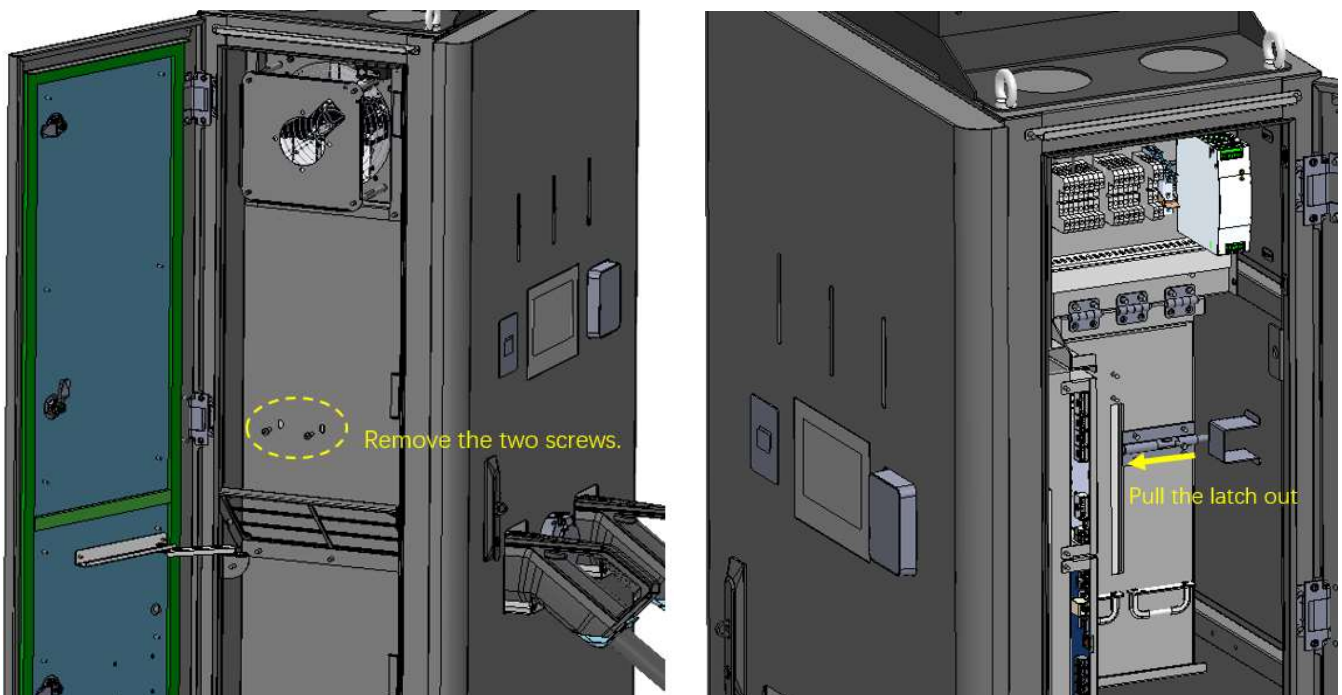

Figure 14 Remove the screws and unplug the latch
(1) Open the left door of the charger, and remove the two screws, then open the right door and pull the latch of the power module slot out as shown in Figure 14.